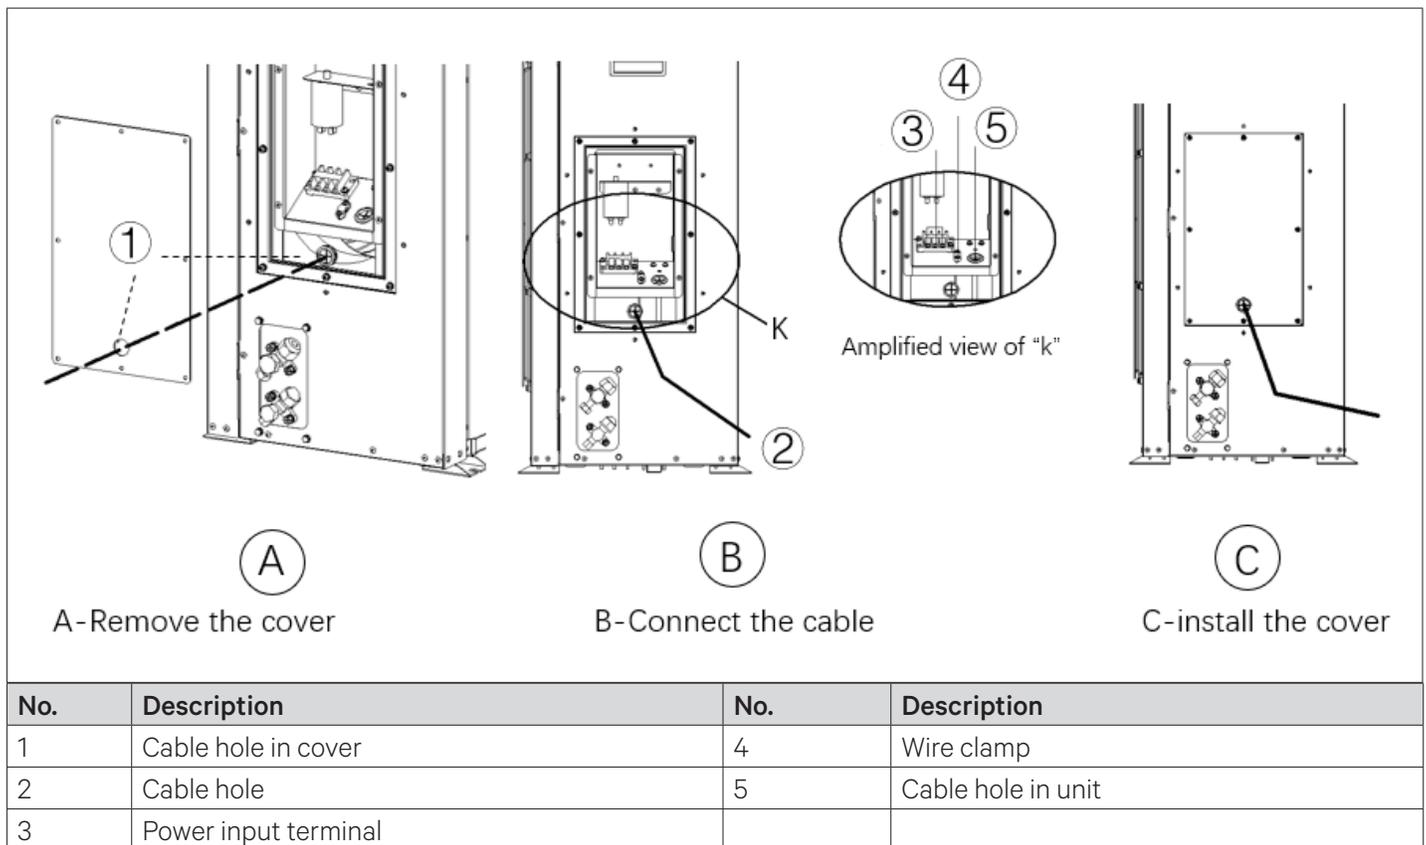
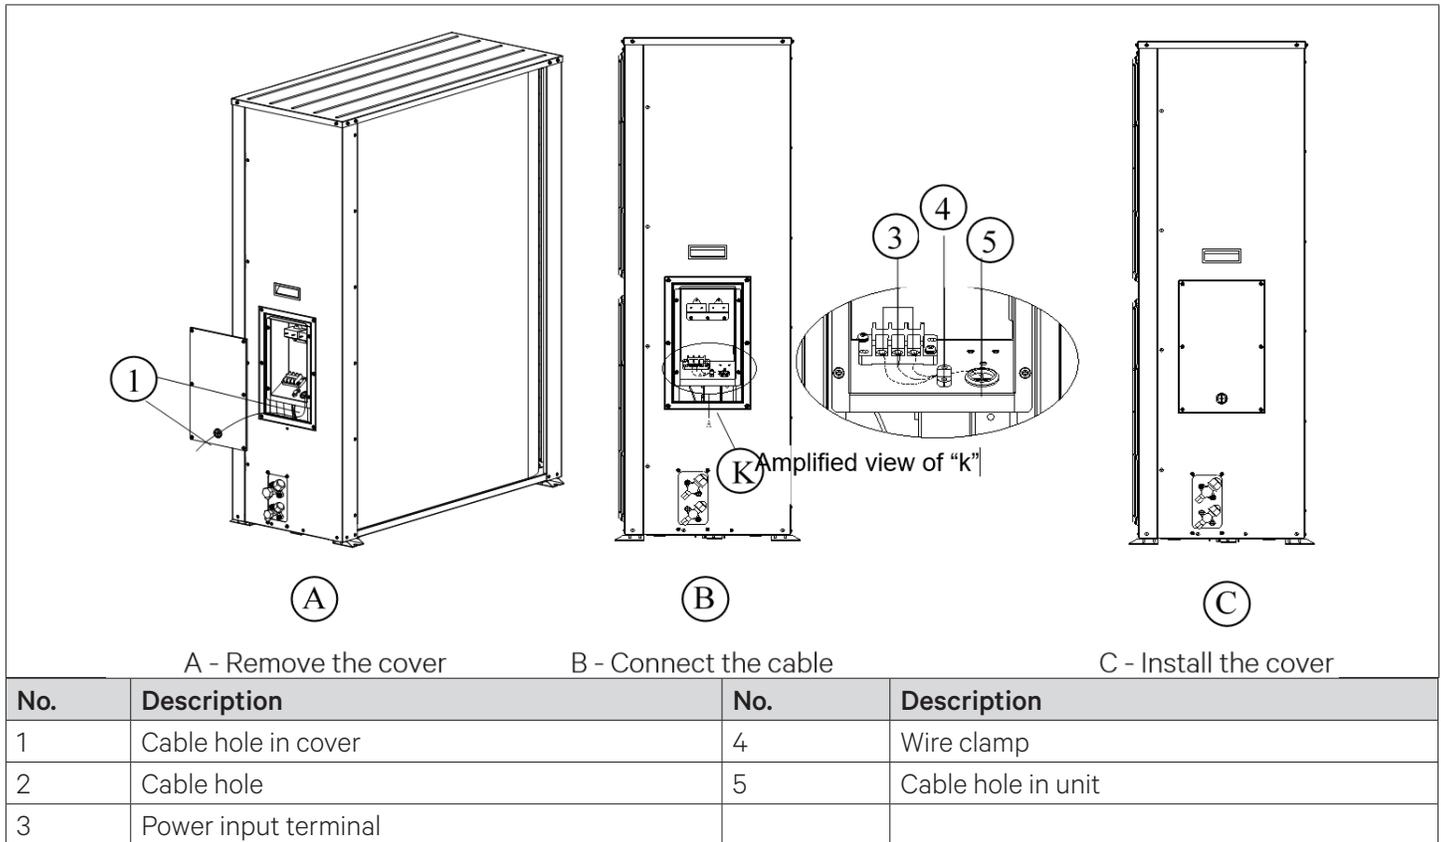
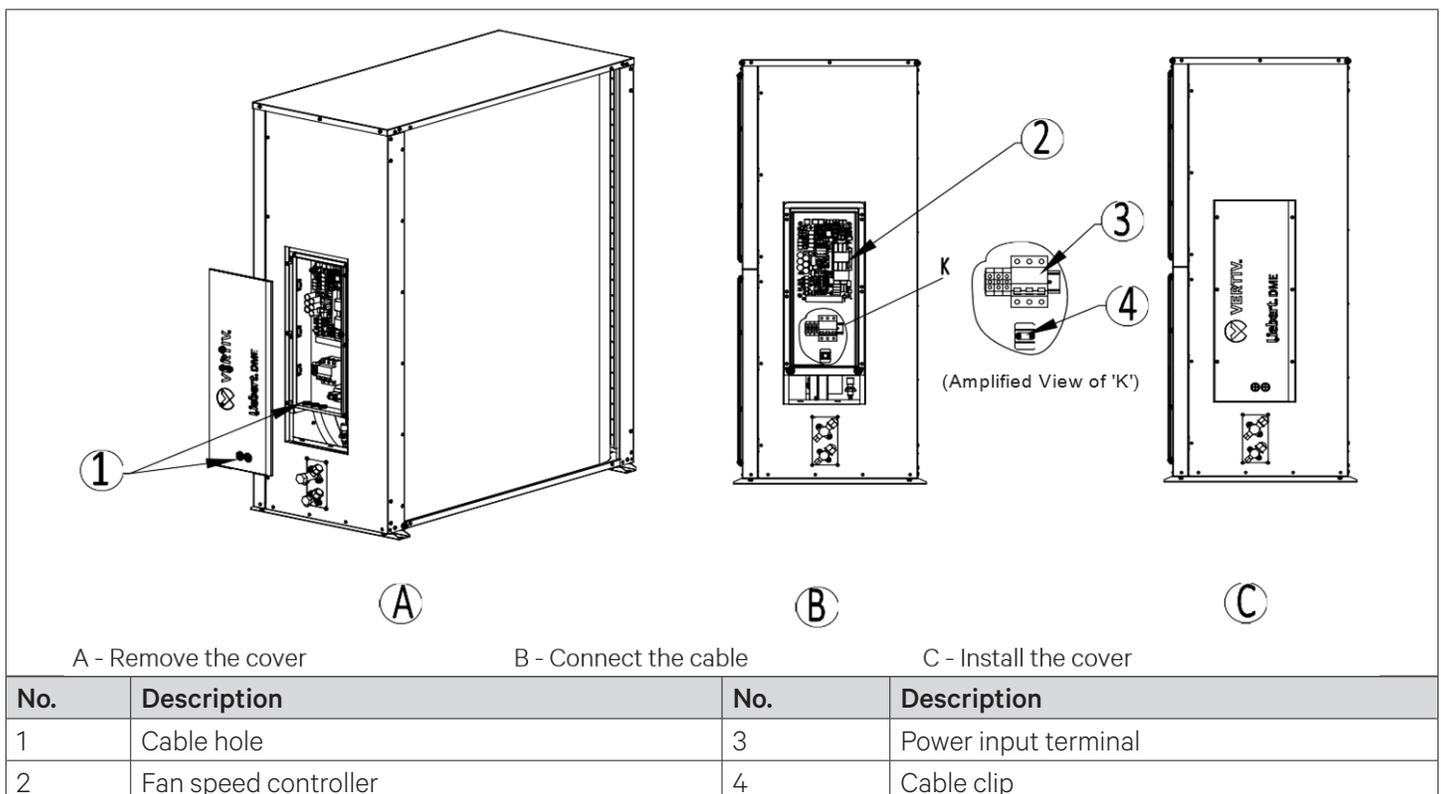

Figure 3-4 Power Connection of Outdoor Unit (07 kW/12 kW)
Figure 3-5 Power Connection of Outdoor Unit (17 kW)
Figure 3-6 Power Connection of Outdoor Unit (22 kW/27 kW)
3. Connect one end of the outdoor unit power cable to the power output terminals of the indoor unit, as shown in Figure 3-1, Figure 3-2 and Figure 3-3, and the other ends to the power connection terminals of the outdoor unit shown in Figure 3-4, Figure 3-5, and Figure 3-6.